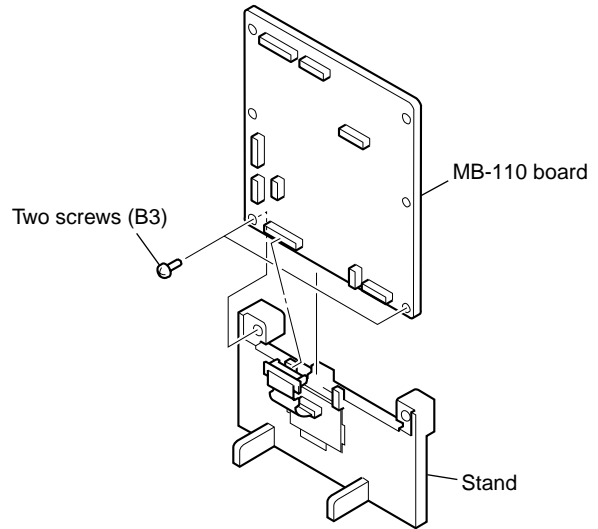

Fig. 9
- 3) Set the MB-110 board in the stand as shown in Fig. 9.